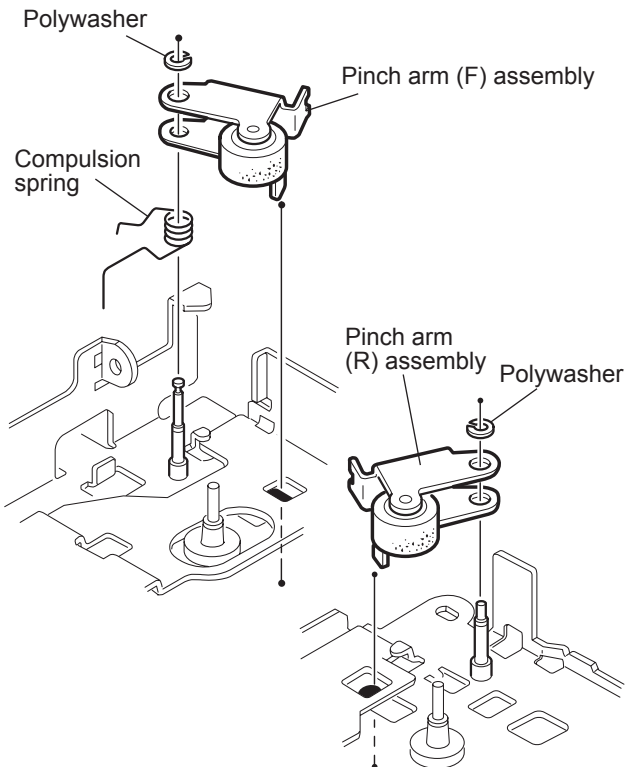

Fig.12
- (3) Take out the front board from the front panel assembly. (See Fig.12.)